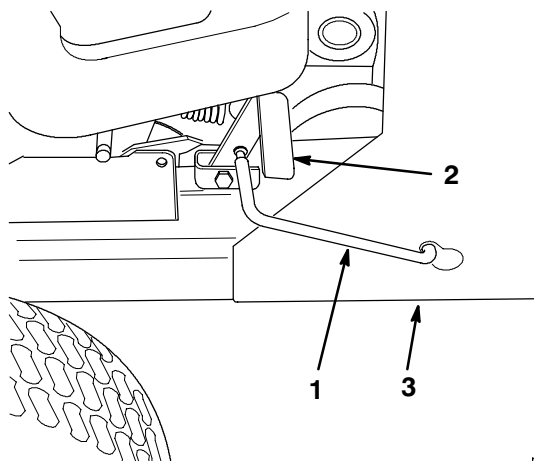

Figure 17
11. On the right side of the tractor, pull forward on the spring tension link lever and connect the spring tension link from the spring tension link lever on the pulley housing to the snowthrower frame (Fig. 17).